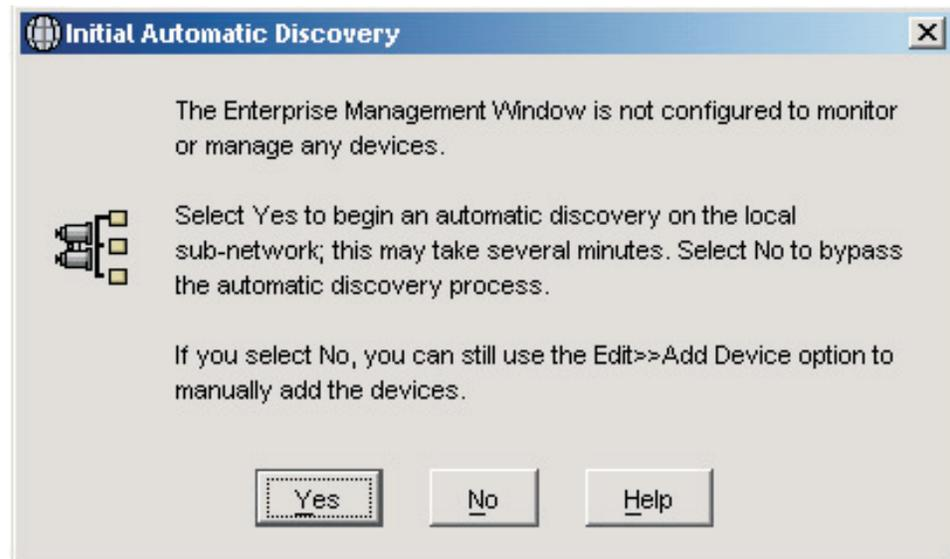

Figure 17. Confirm Initial Automatic Discovery window
2. Click **IBM DS4000 Storage Manager 9 Client**. The client software starts and displays the Enterprise Management window and the Confirm Initial Automatic Discovery window as illustrated in Figure 17.